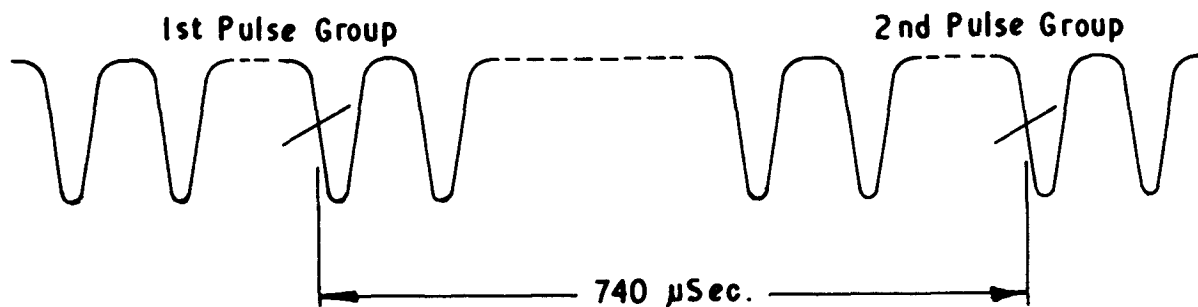

Figure 3-23
10. Adjust the MARKERS POSITION control on the CTR unit and the INTENSITY control on the oscilloscope to place a 100μ sec marker (intensified) on the half-amplitude point of the leading edge of the third pulse of the first pulse group. (See figure 3-23).
11. Using the Oscilloscope HORIZ POSITION and INTENSITY controls, measure the time interval from this point to the identical place in the second pulse group as shown in figure 3-23. The pulse spacing should be between 690 and 790μ sec (nominally 740μ sec). Record the spacing obtained. If the spacing is not between 690 and 790μ sec, set up as described in Paragraph 6-2h 4.